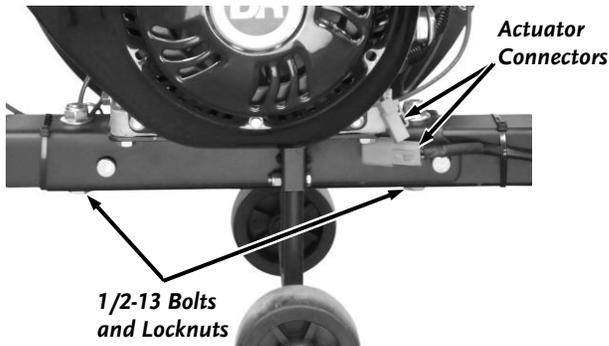

Figure 80
10. Remove the two sets of Bolts and Locknuts from the Frame using two 3/4" Wrenches (Figure 80).